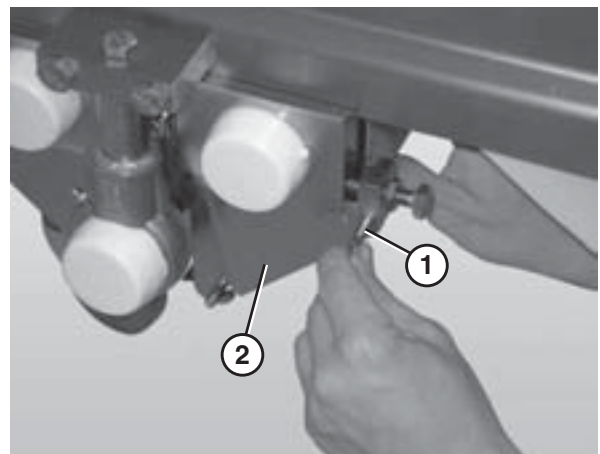

Figure 29
2. Remove the 2 pull pins (Figure 29, item 1) from the center drive side plate (Figure 29, item 2).
11. Insert the pull pins (Figure 29, item 1).